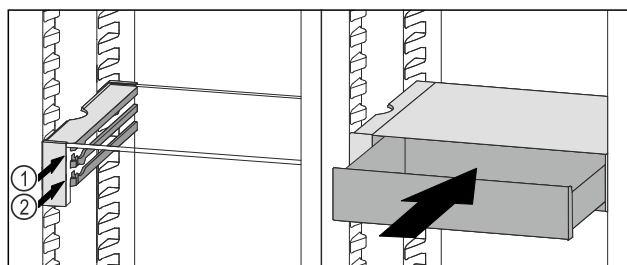

Fig. 94
- Place the VarioSafe drawer behind the stoppers on desired rib *Fig. 94 (1)* or *Fig. 94 (2)*.